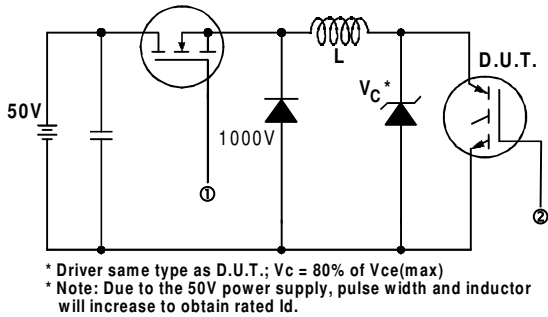

Fig. 13a - Clamped Inductive Load Test Circuit
- ② $V_{CC} = 80\%(V_{CES})$, $V_{GE} = 20V$, $L = 10\mu\text{H}$, $R_G = 23\Omega$, (See fig. 13a)
- ③ Repetitive rating; pulse width limited by maximum junction temperature.
- ④ Pulse width $\leq 80\mu\text{s}$; duty factor $\leq 0.1\%$.
- ⑤ Pulse width $5.0\mu\text{s}$, single shot.